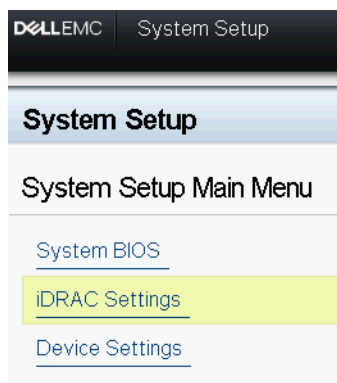

Figure 6-2. System Setup, Device Settings
2. Enter the system BIOS **System Setup**'s **Device Settings** configuration menu (see Figure 6-2).